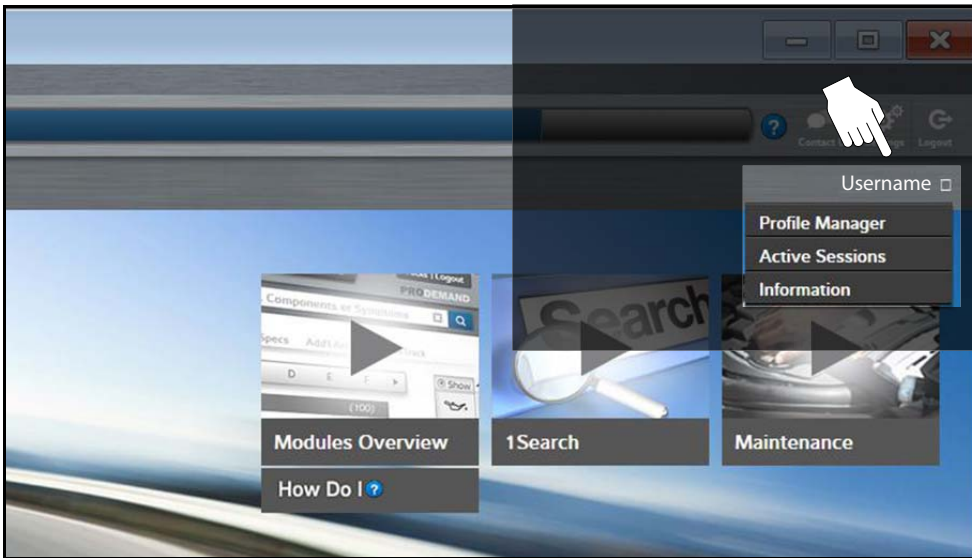

Figure 15-8
2. At the ShopKey Pro start page, select your username (Figure 15-8), then select **Profile Manager** from the dropdown menu.